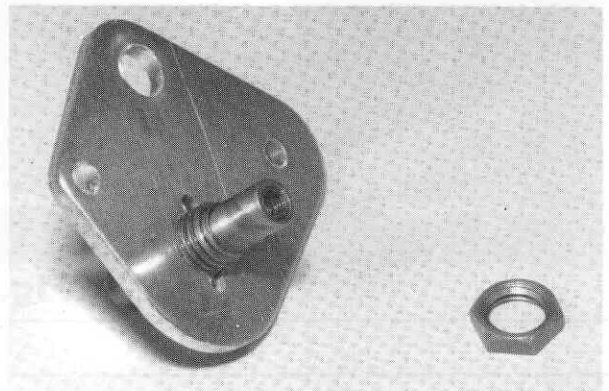

Fig. 30
□ **Fig. 30** Take the large thin 1/4-28 hex nut out of the bag. Turn the plate over and install the nut. Tighten the nut with a socket or open-end wrench while holding the spine plate. You may want to put a drop of thread-locking compound on the threads to make sure the nut doesn't come loose.